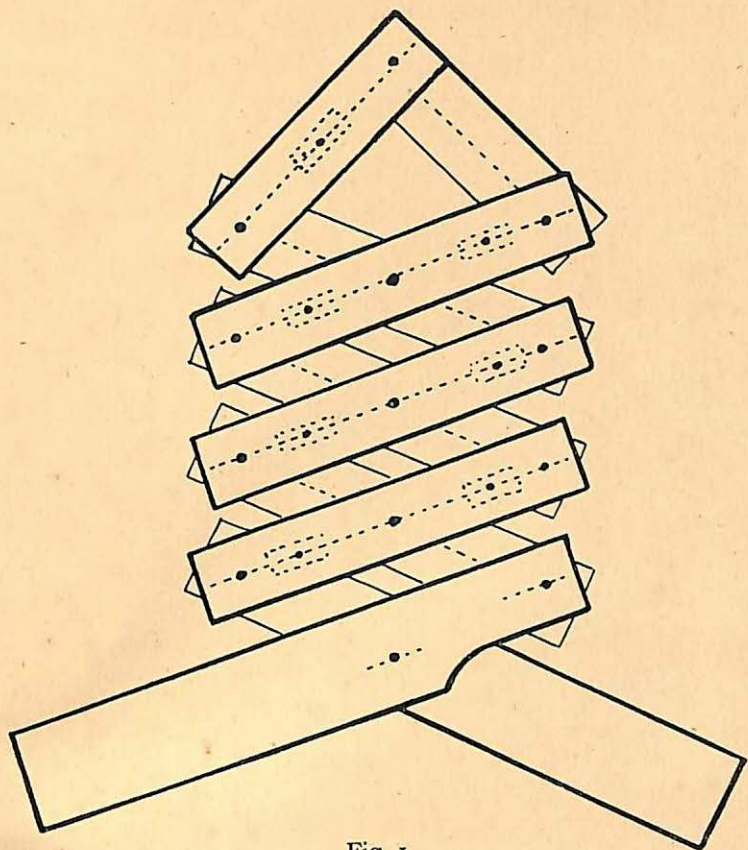

Fig. 1
2. STAND. Shape the two 6-in. strips as seen in Fig. 1, thus making the shaped end  $\frac{3}{4}$  in. wide to match the other strips.
4. Place the strips in position and nail together, making the nails firm by clenching (see notes on page 8). Fig. 1 shows the stand when closed. Fig. 2 shows the stand when open.
5. Place the hen and chicks on stand. Fig. 1 gives their position. See that they stand steadily, making any necessary adjustments with knife or file; then fix in position with glue. They can be made specially firm by nailing up from the under side (using panel pins—the holes for the pins should be bored before gluing).